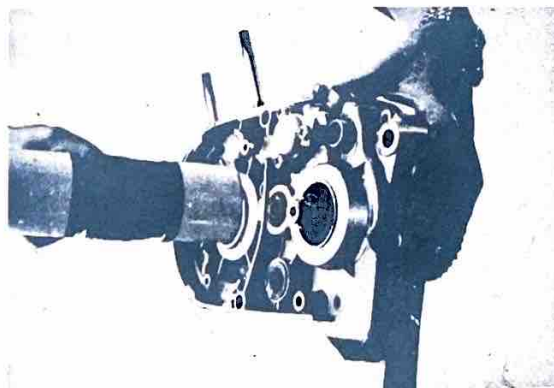

Fig. 4-15-4
- 2) Remove both the transmission assembly and the shift forks from the crankcase, while tapping the drive shaft end with a plastic-tip hammer. (Fig. 4-15-4)